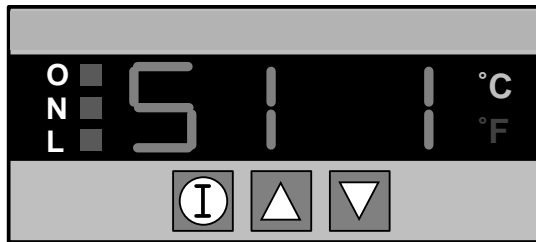

Figure 8: Setpoint Display (Showing Setpoint 1 Active)
1. In temperature/value display, press the  button until a display similar to Figure 8 appears. (Setpoint 1 shows as "S1" followed by a number 0, showing that Setpoint 1 is inactive, or a number 1, designating active.)